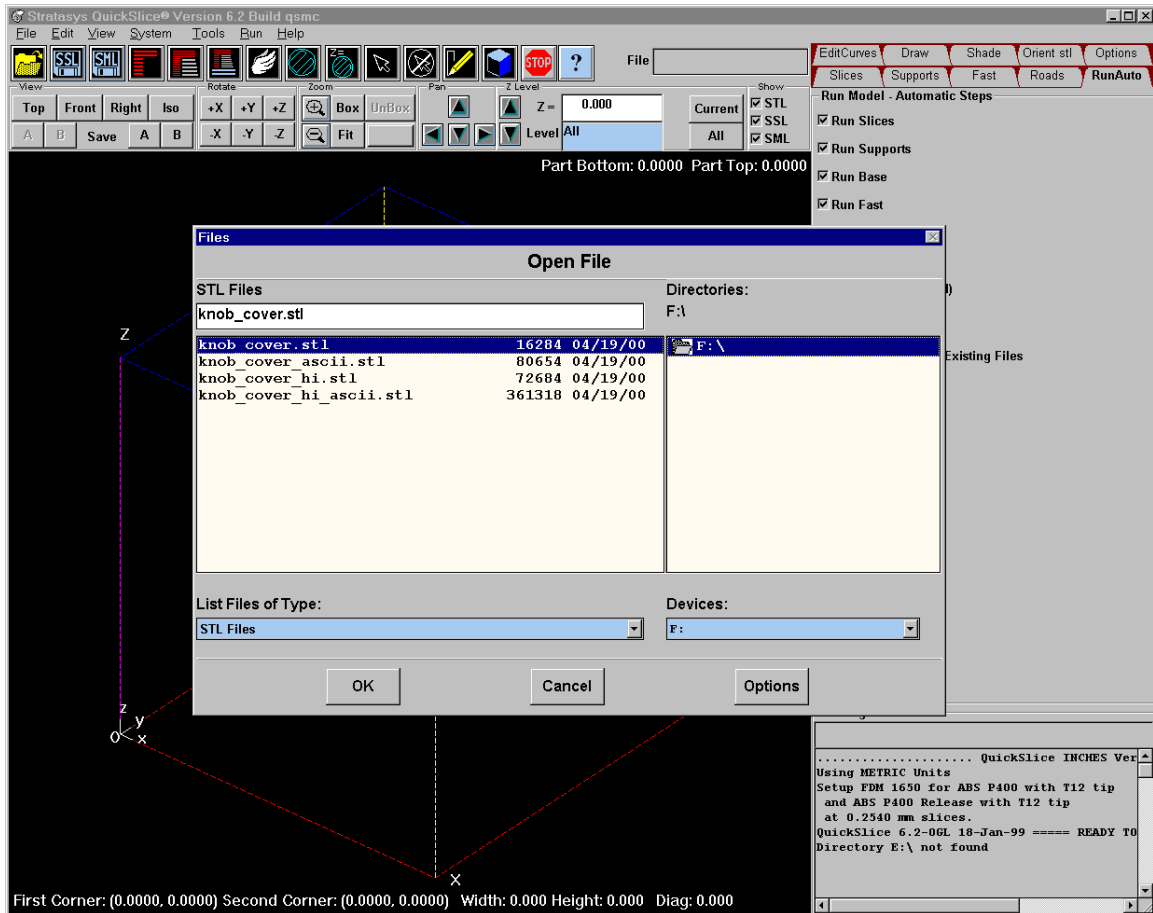

Figure 2: Opening STL file using Quickslice.
5. Open the STL file. See figure 2 below.